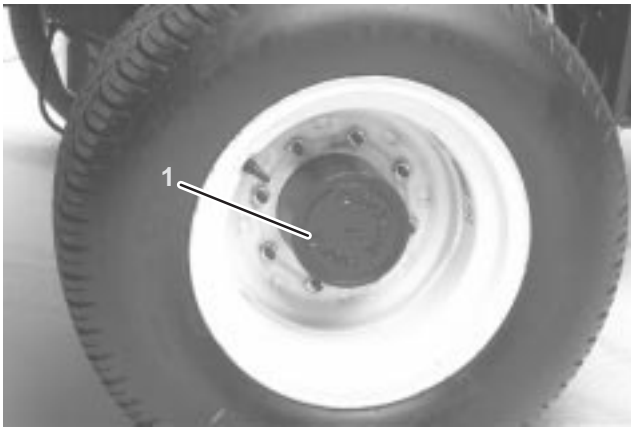
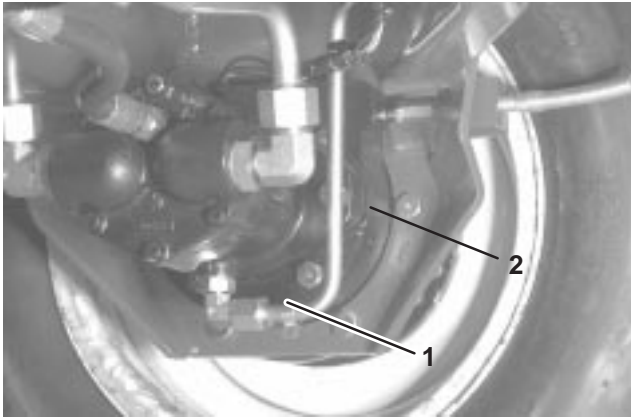

Figure 18
Figure 19
1. With machine on level surface, position wheel so the check/drain plug (Fig. 18) is at either 2 or 10 o'clock position.
2. Remove the plug on the planetary (Fig. 18) and the check plug on the back side of the brake (Fig. 19). Oil should be at the bottom of the check plug hole on front and back side of the brake.